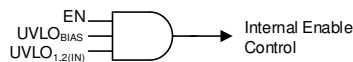

Figure 42. Simplified Turnon Control
Controlling when a single power supply turns on can be difficult in a power distribution network (PDN) because of the high power levels inherent in a PDN, and the variations between all of the supplies. As shown in Figure 42 and Table 2, the LDO turnon and turnoff time is set by the enable circuit (EN) and undervoltage lockout circuits ( $UVLO_{1,2(IN)}$  and  $UVLO_{BIAS}$ ).